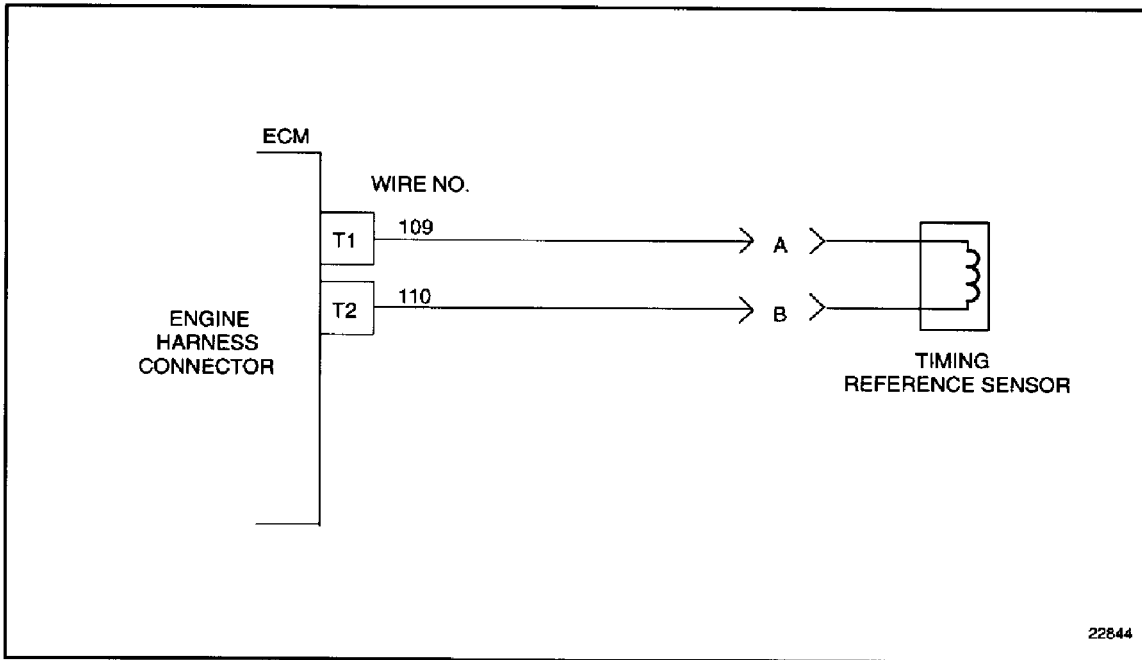

Figure 42-7 Engine Harness Connector to Timing Reference Sensor
2. Install a jumper wire between sockets A and B of the TRS harness connector. See Figure 42-7.